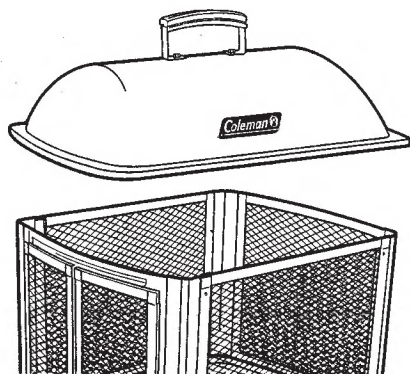

Figure 7
6. Place lid on top of screen. **(Figure 7).**